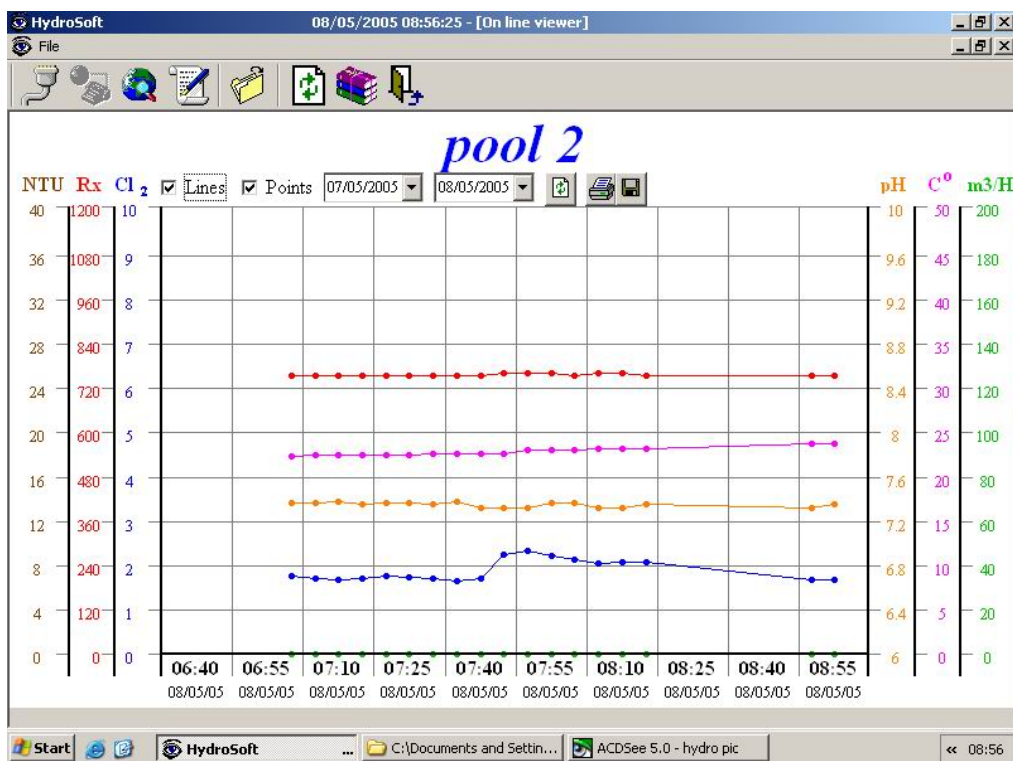

Figure 11: Initial Graph Display
1. Clicking on the graph icon and a graph will appear (Figure 11)